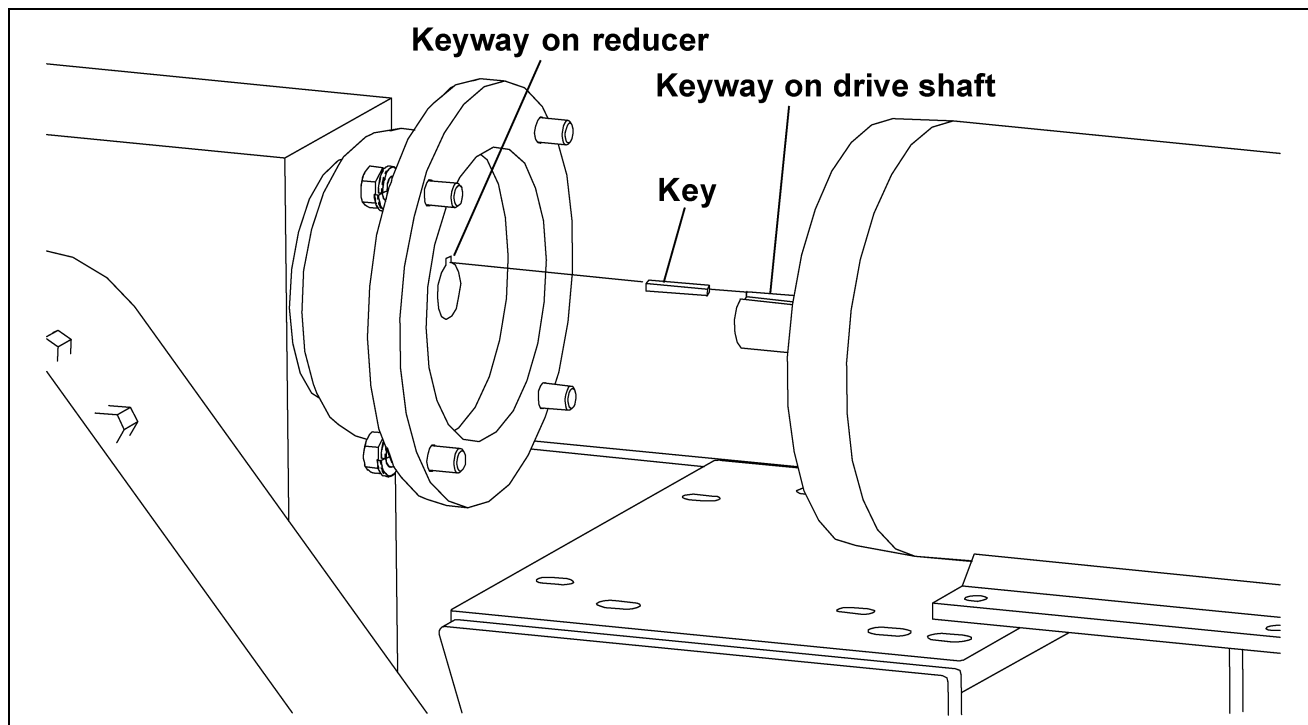

Figure 5N
C. Line up keyway on shaft with keyway on reducer and insert shaft into motor. (See Figure 5N.)